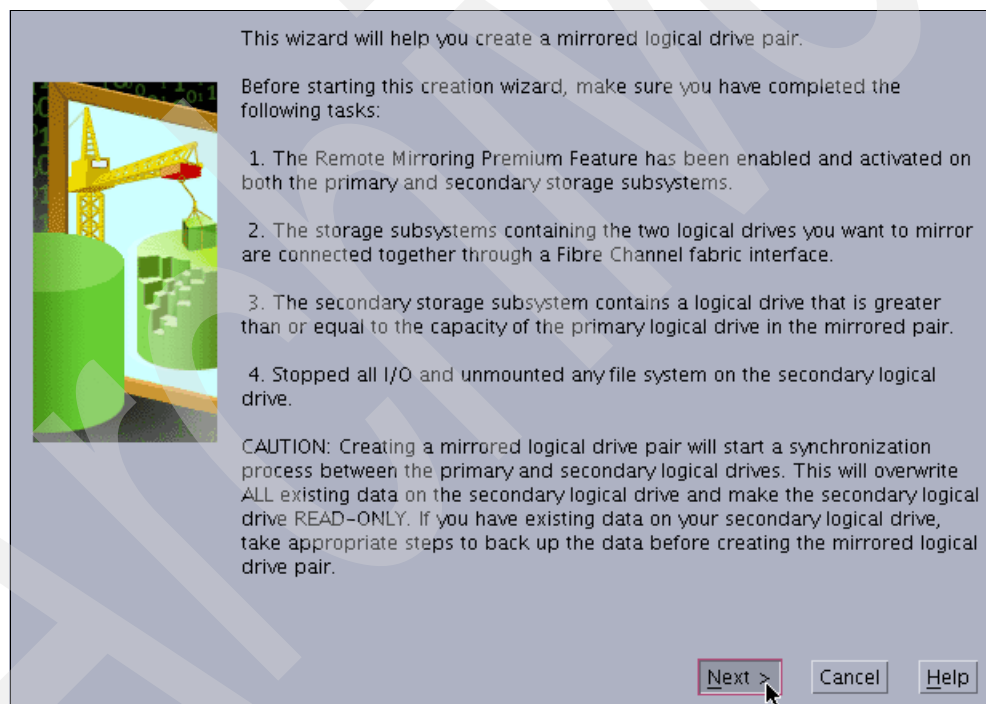

Figure 13-27 Create Remote Mirror: Introduction
2. This launches the Create Remote Mirror: Introduction window (Figure 13-27).